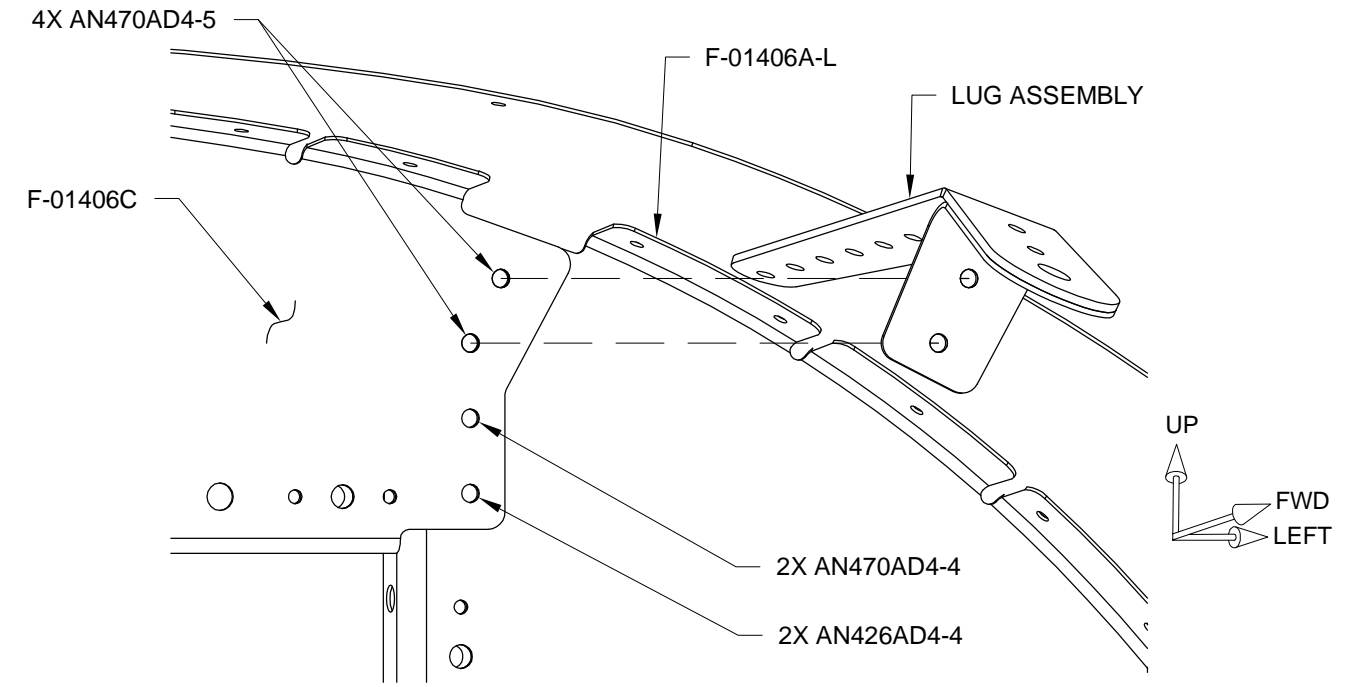

FIGURE 2: LUG ASSEMBLY INSTALLATION
Step 6: Rivet the Lug Assembly and the F-01406C Bulkhead to the F-01406A-L Bulkhead as shown in Figure 2.